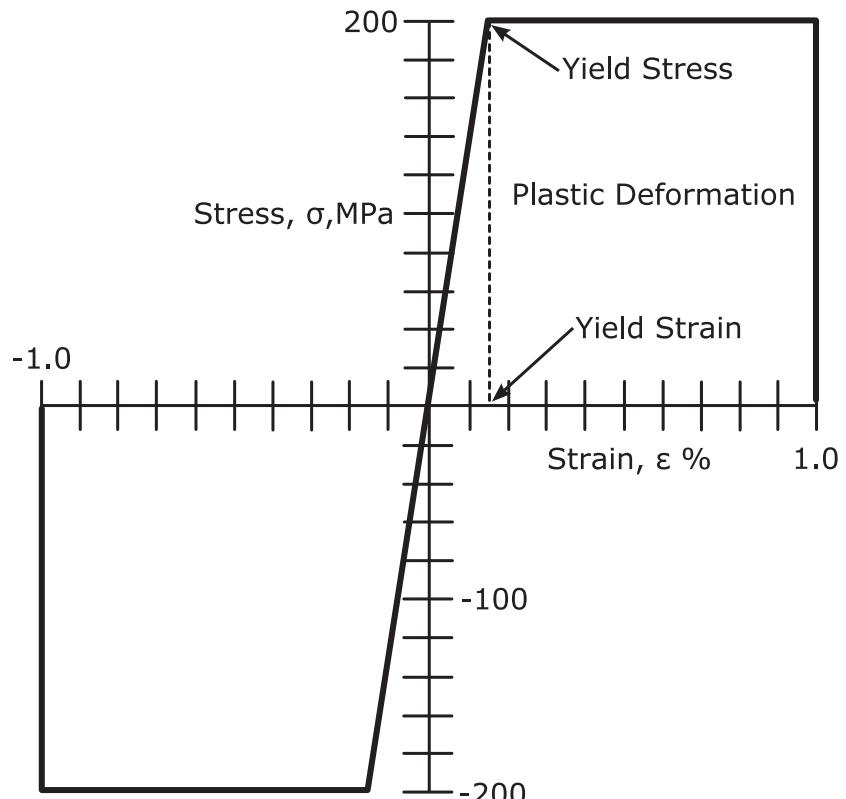

Figure 11
The stress-strain diagram of an idealized steel14 plotted according to equation 3 looks like Figure 11. It also defines some new terms: **yield stress** (or **yield strength**), **yield strain**, and **plastic deformation**.
Given the stress-strain diagram for steel in Figure 11, determine (a) its modulus under compression, (b) its yield strength under tension, (c) its toughness under tension to yield, and (d) its toughness under tension to 1.0% deformation. Use appropriate SI units.
**Know:** Stress/strain curve in Figure 11; toughness is area beneath the stress/strain curve.
Can the car's bumper from Example 1 absorb the TKE of the 2.5 mph collision assumed there? Or will it plastically deform? What if instead it is traveling at 5.0 mph? What is the weight of the bumper if its density is  $7,850 \text{ kg/m}^3$ ? Assume the mechanical behavior is described by the stress-strain diagram of Figure 11.